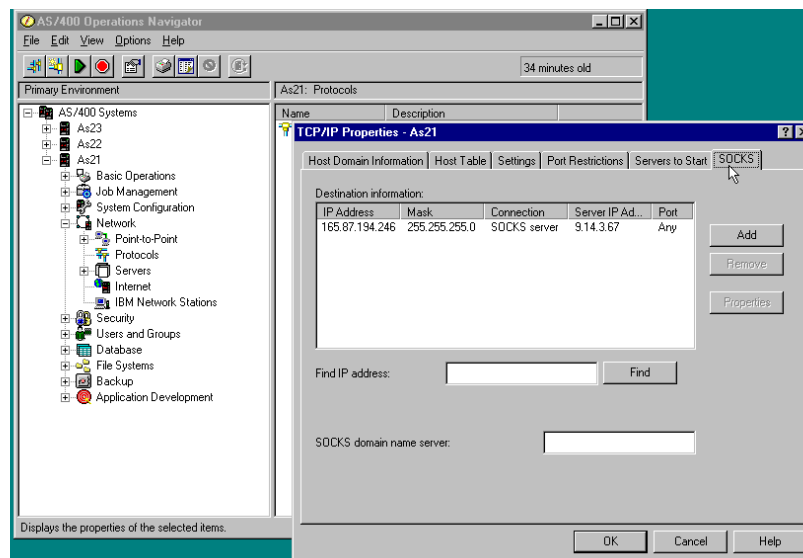

Figure 467. SOCKS
8. Click the **SOCKS** tab to define the TCP client connection to internal secure networks and to less secure networks. You can define a direct connection to servers in the internal secure network. Users must have *IOSYSCFG special authority to change information on this dialog. Figure 467 shows the SOCKS dialog.